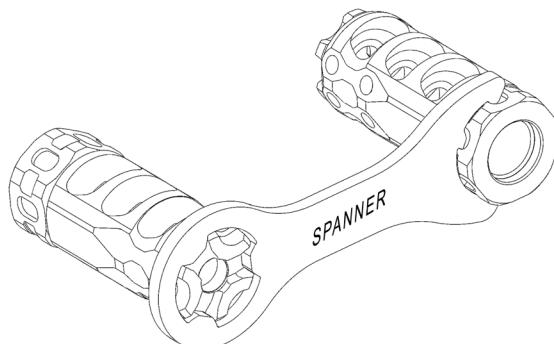

Fig. 3
4. Hold the brake body in timed position using either the included spanner tool inserted over the skeletonized crown (Fig. 3) or an adjustable wrench on the top/bottom flats. Note: Spanner tool can be used to assist timing alignment by eye sighting the wrench handle to a vertical orientation).
5. Turn the timing nut back until it contacts the barrel shoulder. Using the other included spanner tool inserted into the nut slots (Fig. 3) or an additional adjustable wrench on the nut flats, apply approximately 20 ft-lbs of torque. (The included spanner tool will achieve approximately 20 ft-lbs when torqued as hard as comfortably possible).
REMOVAL: Turn the TIMING NUT in the opposite direction from installation using either the included spanner tool (Fig. 3) or an adjustable wrench. Once the pre-load torque is breeched, the brake/nut assembly will thread freely off barrel.